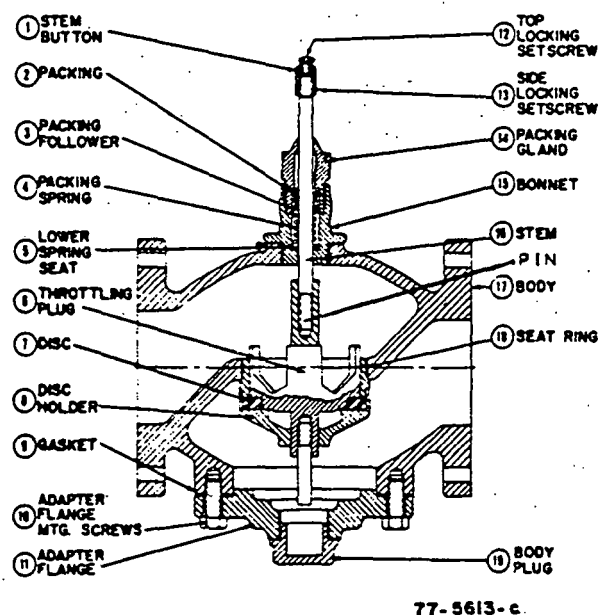

Fig. 3—Cutaway of Typical V5011B Body.
d. Reverse Acting Flanged Valves (V5011B) – The bonnet may be unscrewed but the stem and plug assembly cannot be removed until the adapter flange at the bottom of the valve is removed by unscrewing the mounting screws (Fig. 3).